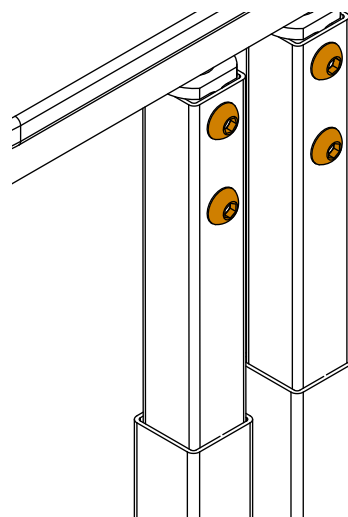

Figure 37. Center leg rest - Screws for leg rest tubes
The leg rest tubes are attached to the centre stay with 2 screws each (Figure 37). Tubes come in 3 lengths and include a snap-lock for attaching a footrest. Note: Tubes are the same for sw30 and sw34.
2. Remove the screws (Figure 37) and remove off the tube.